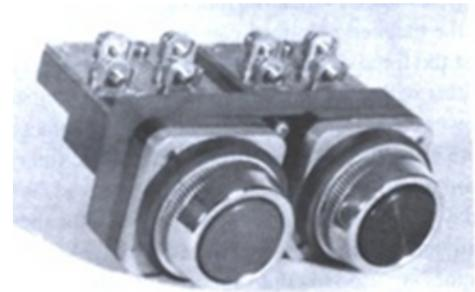

Figure 2.2.1
- Figure 2.2.1 show that the mechanical-interlocked pushbutton with NO (normally open) and NC (normally close) contacts, rated to interrupt an ac current of 6A one million times.